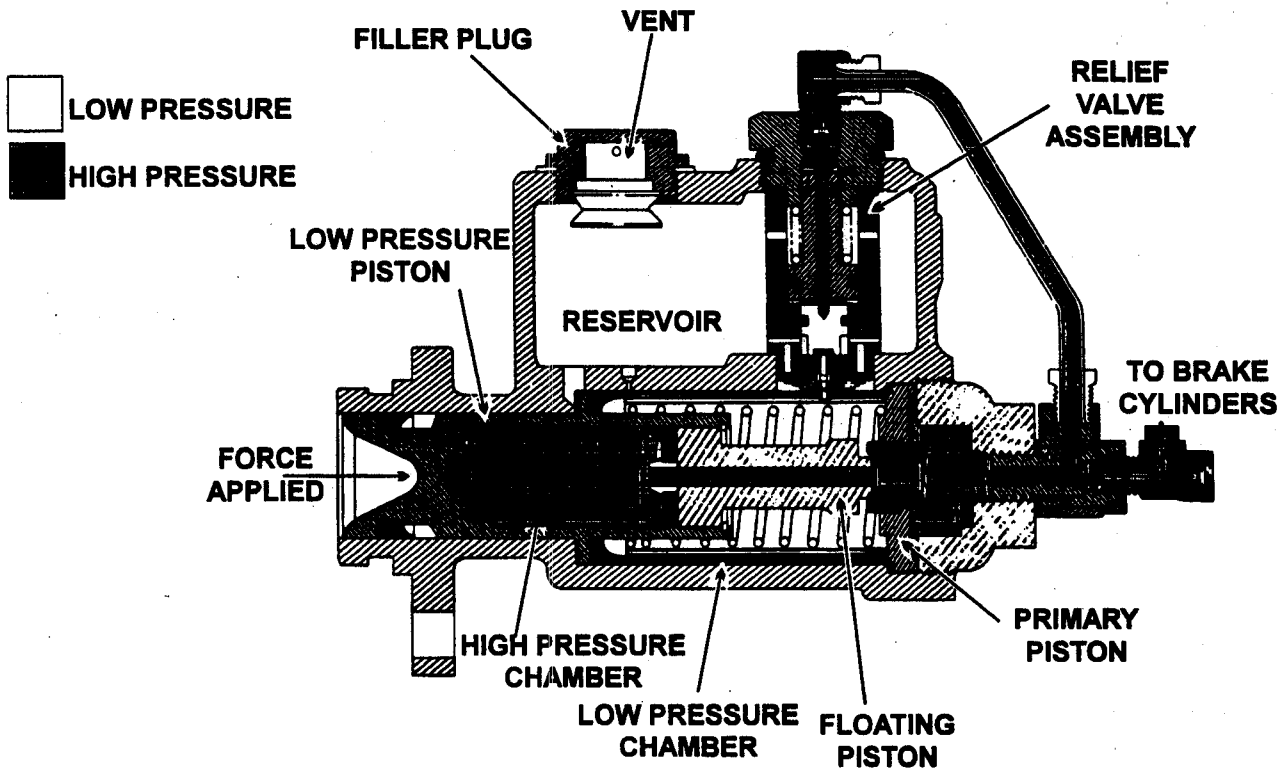

Figure 2. Master Cylinder - Cross Section View
48. Fill each wheel hub with recommended lubricant to bottom of fill plug opening. See Figure 2.
When the operator pushes the brake pedal, force is applied to the low pressure piston of the master cylinder. See Figure 2. The piston moves forward and closes the reservoir ports in the low pressure chamber and the relief valve. The oil which is pushed ahead of the piston flows through the primary piston and enters the brake lines. The wheel cylinders extend and move the brake shoes into contact with the brake drums or discs.